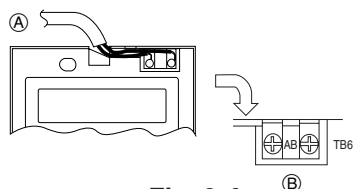

Fig. 6-3
(2) Seal the service entrance for the remote controller cord with putty to prevent possible invasion of dew drops, water, cockroaches or worms. (Fig. 6-3)